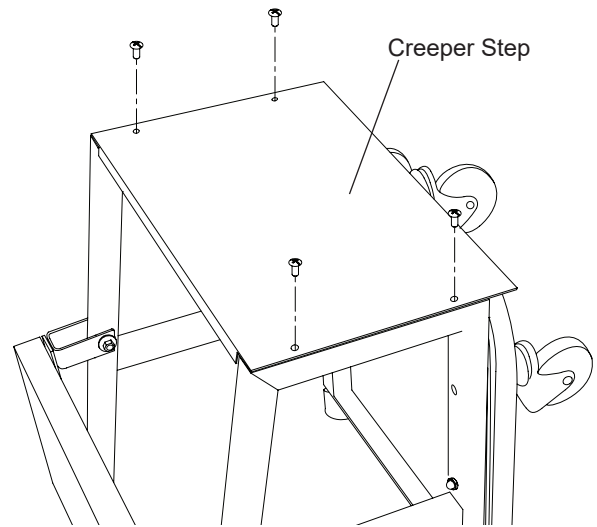

Figure 4 - Attaching Step to Side Frames
4. Fasten creeper step to side frames using four M6 x 16 Phillips head screws (Fig. 4).